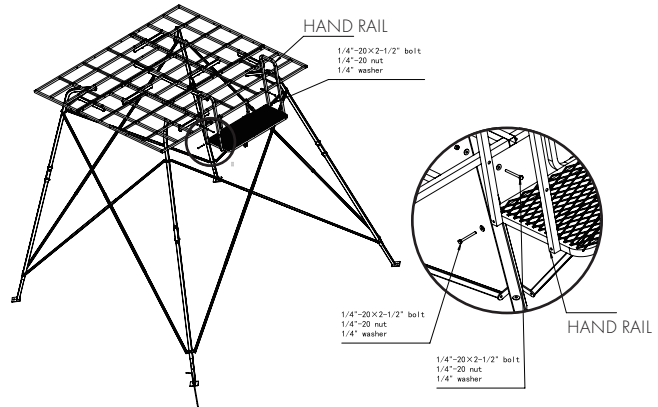

FIGURE 11
Attach the two **HANDRAILS (#14)** to the **FRONT PLATFORM (#13)** and the assembled platform by using (4) 1/4"-20 x 2-1/2" bolts, (4) 1/4" lock nuts and (8) 1/4" flat washers (Figure 11). **Be sure to not over tighten.**